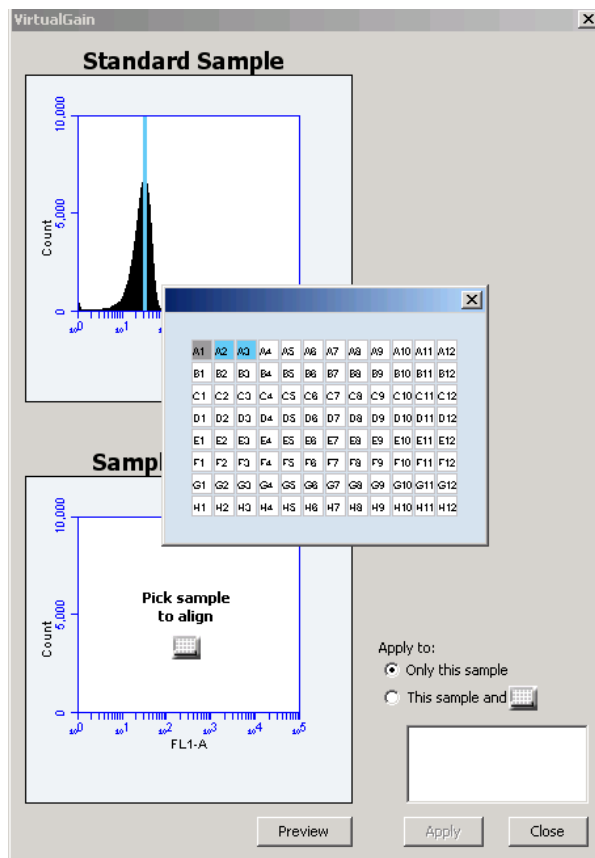

Figure 6-5 Step 9, Pick the sample to align.
9. Pick the sample to Align (to adjust the peak position in) by clicking its well (Figure 6-5). The grey well indicates the Standard Sample already chosen. Choose from blue wells for samples to Align to the Standard. Only a single sample can be chosen to align. To add additional samples see Step 14.